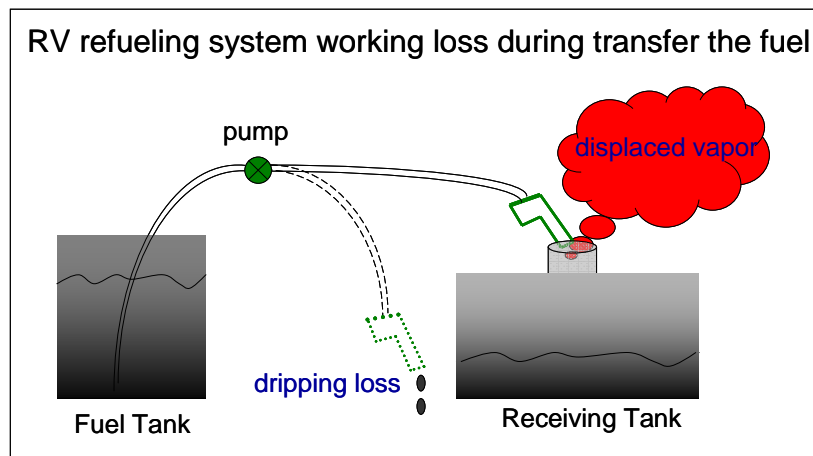

Figure 2. Schematic illustration of RV refueling system working loss during the refueling.
- Working loss = refueling loss (displaced vapor from the receiving tank during refueling) + dripping loss from the nozzle when stop the refueling (Fig. 2)